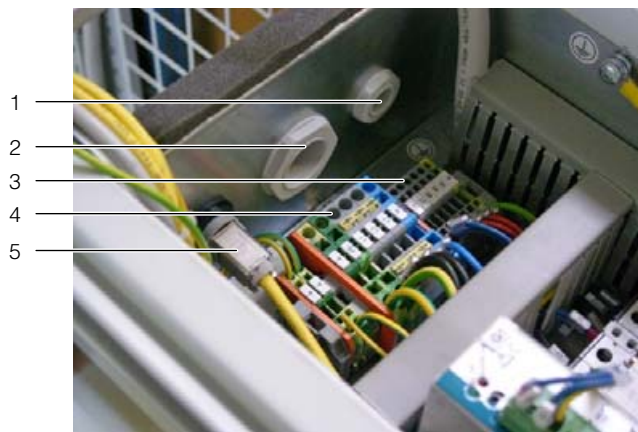

Fig. 29: Connection terminals in the electronics box
- Insert the network cable from the SNMP card to the connection point at the rear of the electronics box (fig. 29, item 5)
In the electronics box, remove the jumper between the two terminals 24 and 27 ("Remote On-Off") and connect a floating remote switch (normally open contact) (fig. 29, item 3).